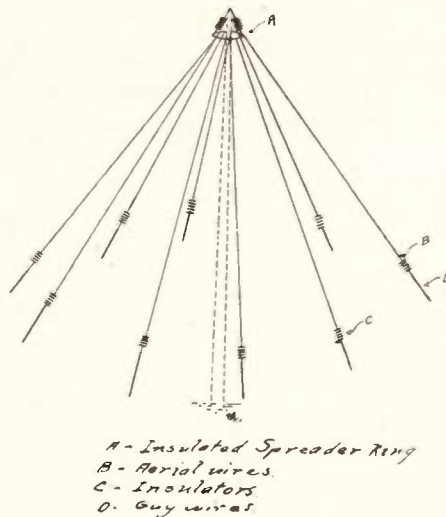

FIG. 1
Figure 1, shows an umbrella type of aerial, which is the best aerial yet devised, and is non-directional when all wires are used and furthermore, has exhibited the best results both on transmission and receiving. Figure 2, shows
-FIG. 1-
The blade (A) as shown in Fig. 1, is connected to one side blade and clip (B) is to be raised on a block of insulating material such as slate, fibre or hard wood. (C) so as to make contact with blade (A) when handle is pulled up to centre position.